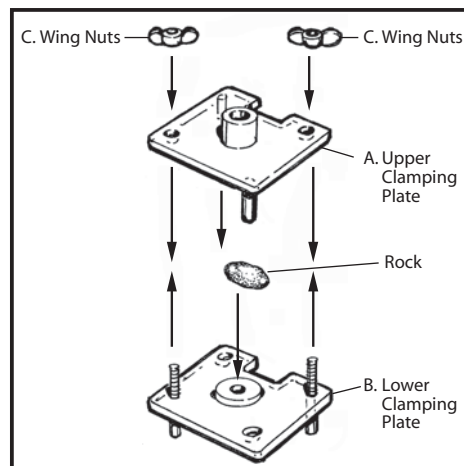

Figure 2
4. Unscrew the Clamping Plate's two wing nuts (Figure 2, C).
5. Slide the Upper Clamping Plate (Figure 2, A) upward.
7. Carefully place the rock on the Lower Clamping Plate (Fig. 2, B), centering it on the raised rubber area.